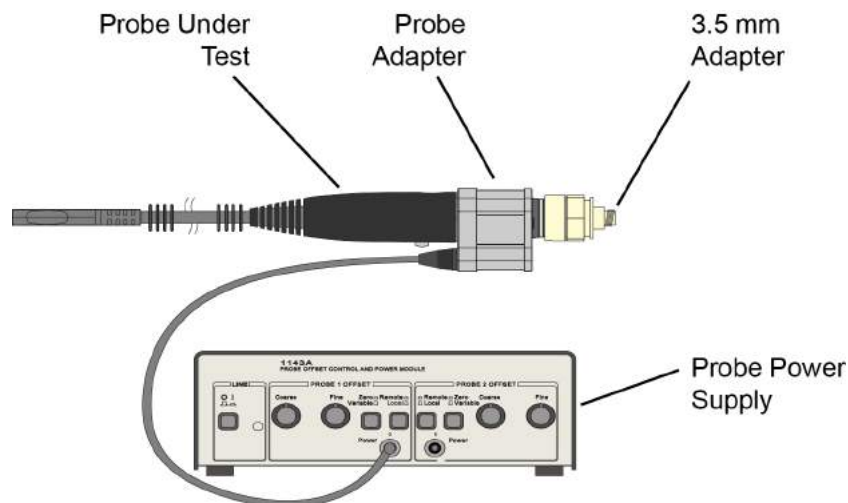

Figure 205 Probe Connected to Power Supply
- 6 Connect the probe under test to the Auto Probe Adapter and power the probe using the 1143A power supply **Figure 205** on page 207. Install the outside thread adapter to the Auto Probe Adapter.